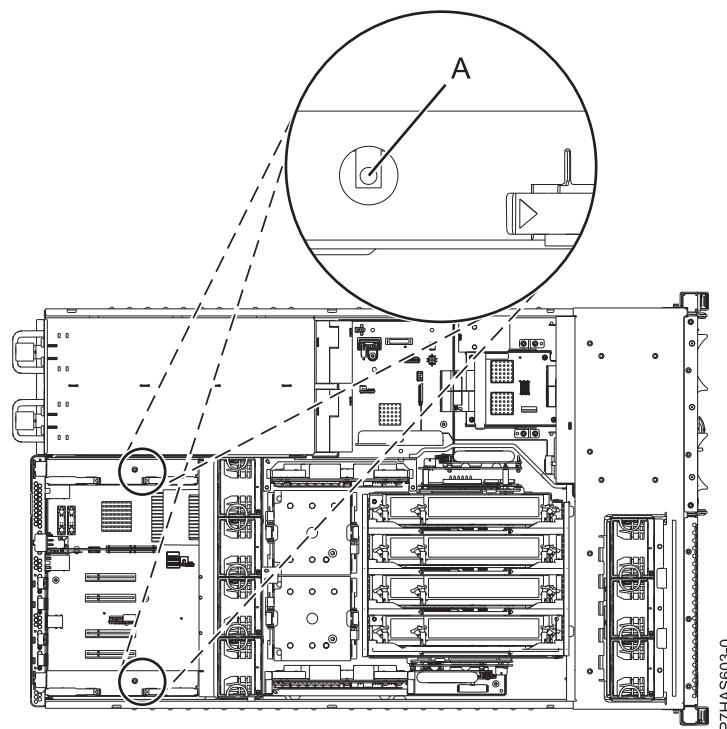

Figure 4. GX adapter LEDs
Figure 4 shows the LEDs (A) associated to the GX adapters.